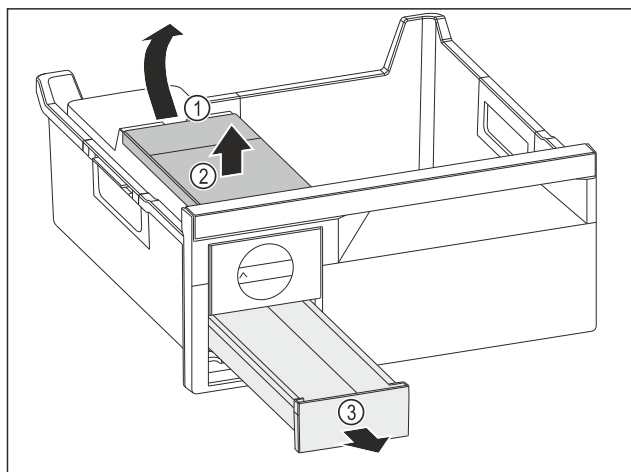

Fig. 123
- Removing the water tank: Lift the water tank at the recess Fig. 123 (1).
- Remove the water tank Fig. 123 (2) upwards.
- Remove the ice cube tray Fig. 123 (3) from the front.